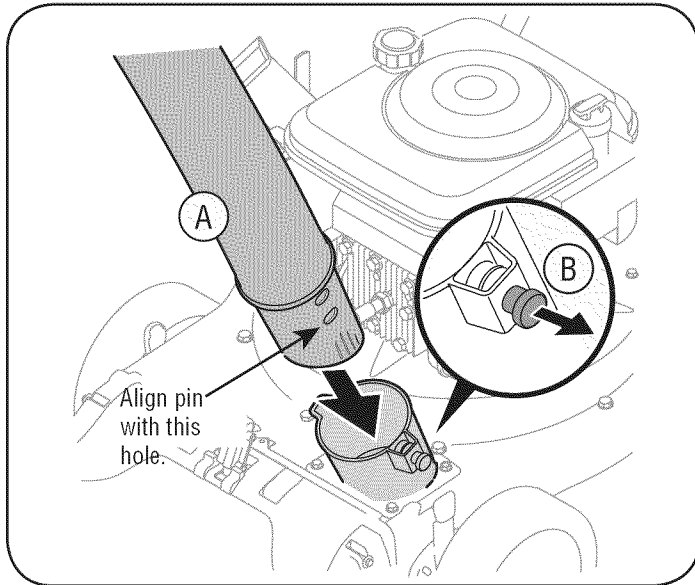

Figure 5
1. a. Slide hose adapter of hose assembly into the base adapter located on the left front of the Yard Vacuum. See Figure 5.